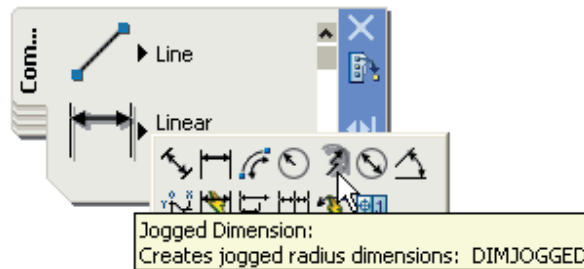

Fig. 6.20 The **Jogged** tool icon
2. Call the **Jogged** tool – either with a *left-click* on its tool icon (Fig. 6.20), or with a *click* on **Jogged** in the **Dimension** toolbar, or by *entering jog* at the command line. The command line shows: